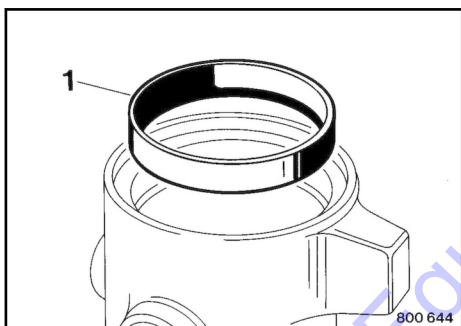

Fig. 195
11. Knock the outer bearing race 1 ↗ Fig. 195 out of the bearing housing.